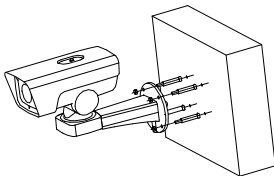

Figure 2-40 Install the Wall-mounted PTZ Bullet Camera
3. Fix the camera on the wall by knocking the expansion screws into the wall through the bracket, as shown in Figure 2-40.